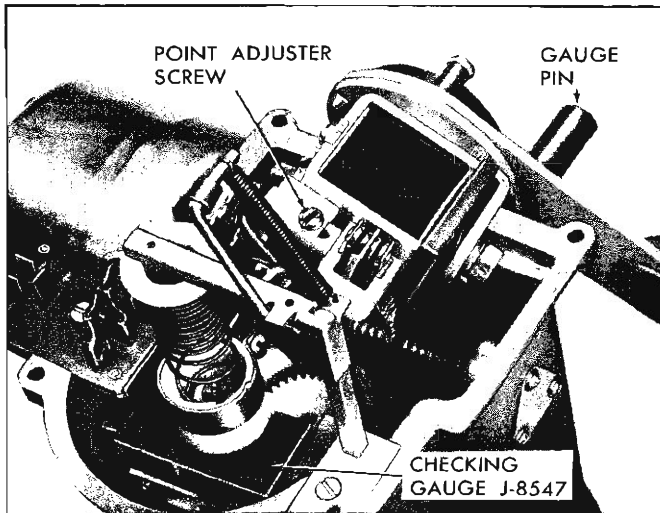

Fig. 68—Centering Contact Points
3. Move contact arm against either grounding point and use a feeler gage to measure the full gap between contact arm and other point (fig. 68). This gap must be $.090 \text{ inch} \pm .010 \text{ inch}$. If gap is not within specifications, carefully bend either grounding point on point adjuster until proper gap is obtained.
8. Use a feeler gage to measure gap between contact arm and either grounding point on point adjuster. This gap should be approximately one-half of the full gap measurement in Step 3. If gap is not within specifications, contact arm is not centered properly. Loosen screw on point adjuster (fig. 68), and move adjuster until contact arm is centered between the two grounding points on the point adjuster. Then tighten point adjuster screw and recheck gap.